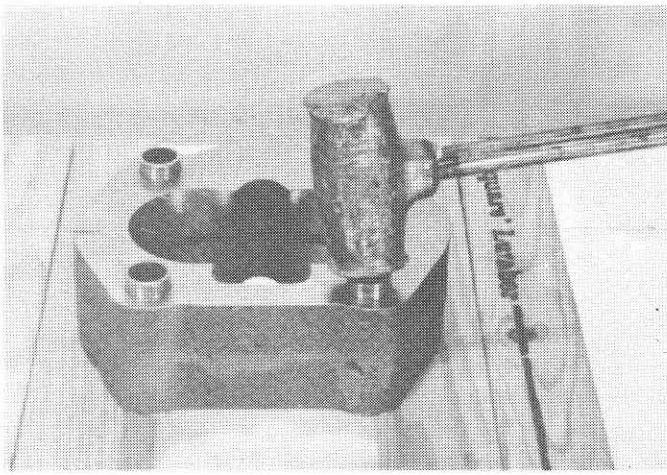

FIG. 20
29. If for any reason gear plate (2) has to be replaced, dowels (11) must be installed in both sides of the gear plate before assembling it to the flange plate. The dowels can be tapped in with a hammer, but it is best to use a dowel guide and press. Whichever method is used, make sure the dowels are started straight in the bores. If the press is used, do not apply a heavy, rapid force to the dowels. If a hammer is used, do not drive the dowels in aggressively. Tap them lightly until they bottom against the shoulder. (Fig. 20)